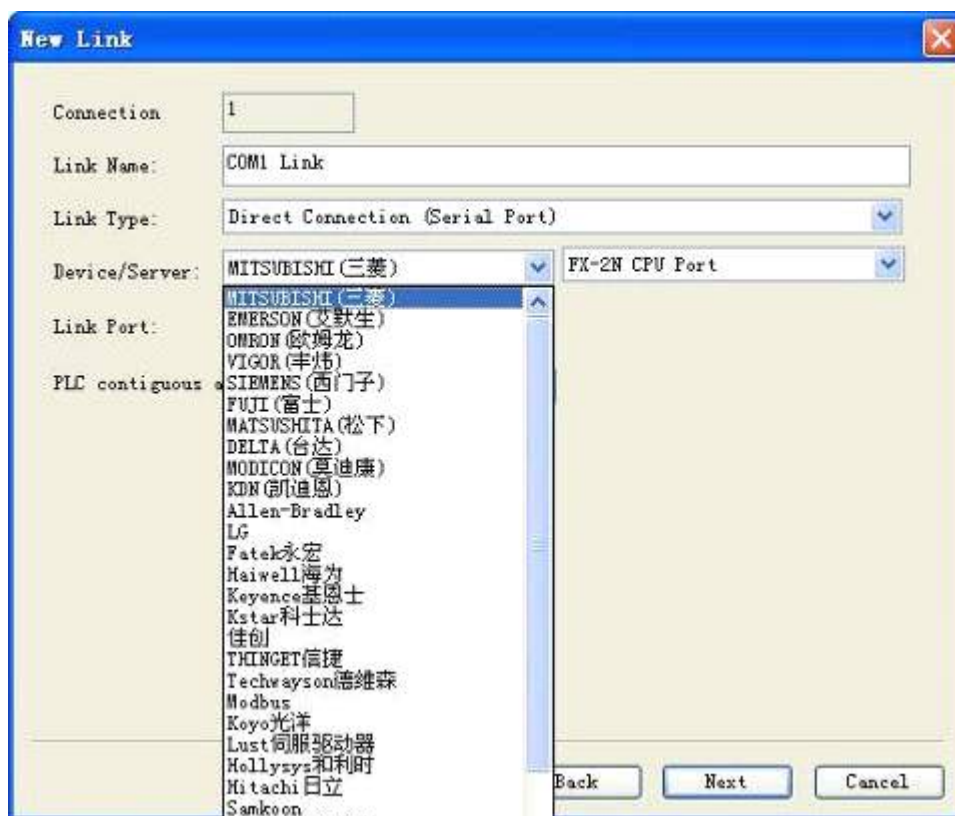

Figure 6-4 Dialog box for communication connection setting of new item
- ✓ Enter project name in column "Project Name"; select one saving position for the project in column "Position"; select "SA-4.3A(480\*272 4.3')" in column "Model Selection" (The 4.3-inch HMI is just taken for example. Users can select other models as required); select "Horizontal" in column "Display Mode" (Users can select vertical display as required). After finishing the setting, information just set by users will display in the below module "Model Parameter". Users can click "Next" after confirmation to pop up the dialog box as shown in figure 6-4.